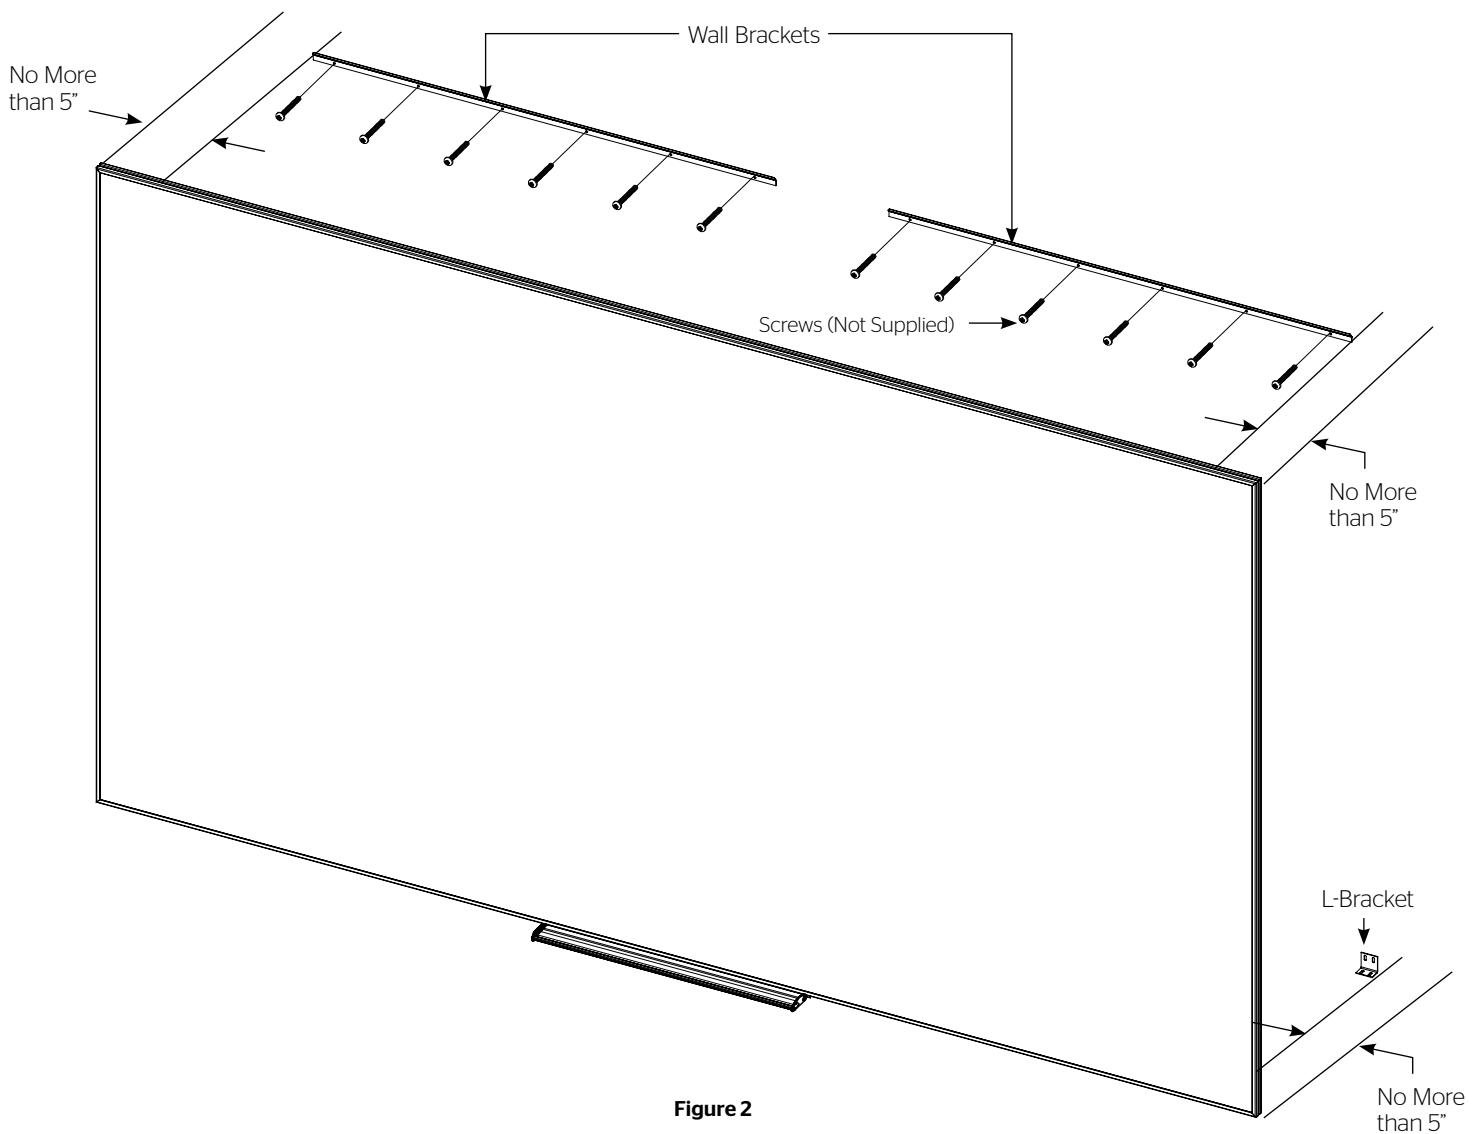

Figure 2
NOTE: The screen is shipped with two wall brackets. Screens in widths of 88" and below receive (2) 28" wall brackets. Screens above 88" in width receive (2) 44" wall brackets. Use appropriate mounting hardware for the wall type and to accommodate for the screen's hanging weight (Figure 2).
1. Secure the two wall brackets to wall studs at the desired height. The outside edge of each wall bracket must be no greater than 5" away from the left and right edges of the frame. You will need at least 1" clearance above the drilled holes to hang the screen (Figure 2).
2. To install the (2) L-brackets, you must measure the overall height of the screen frame and subtract 1½". Using that dimension, measure down from the top edge of the wall brackets and mark the wall for two screw holes. The outside edge of each L-bracket must be no greater than 5" away from the left and right edges of the screen frame (Figure 2).